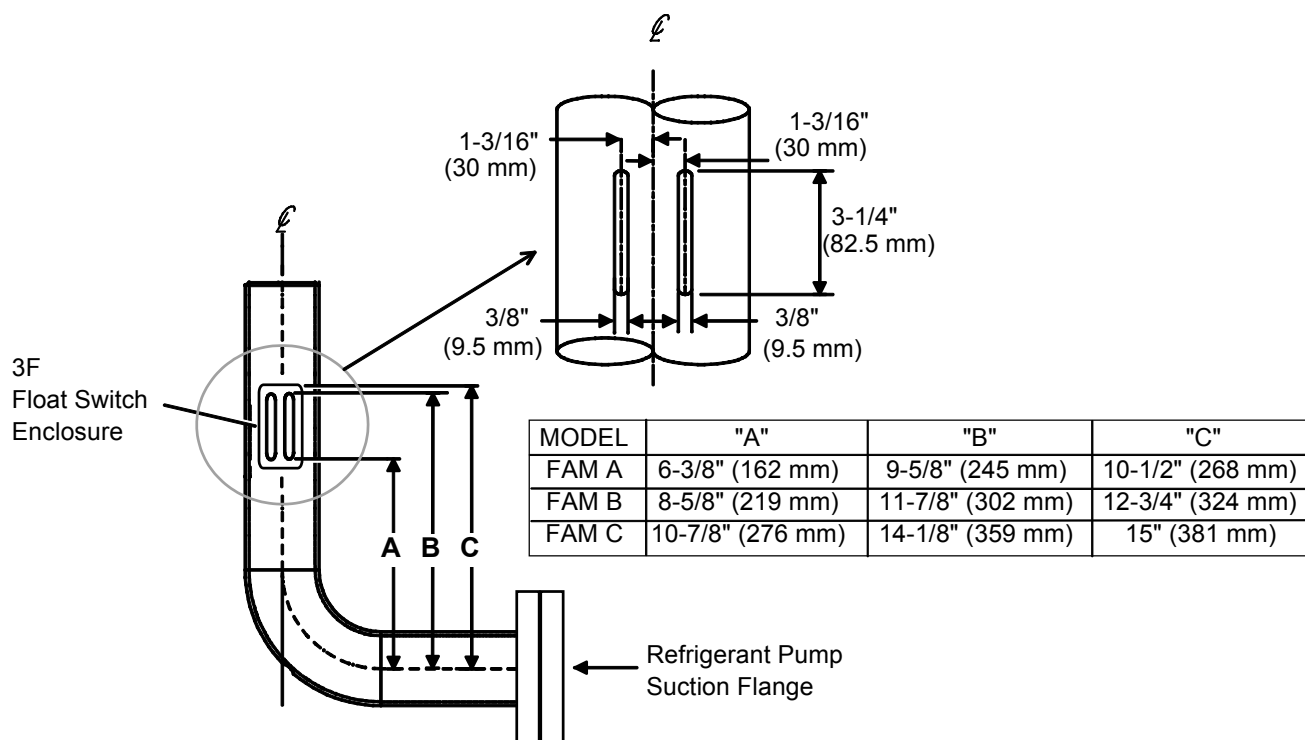

Figure 1 – Location of Float Switch Slots & Enclosure
6. On the vertical section of refrigerant line before the pump suction inlet. Cut two slots to the dimensions shown in Figure 1. Refer to Form 155.17-M3 for details on welding and cutting operations.
7. Weld the 3F Float switch enclosure, p/n 375R00229-000 over the two slots as shown in Figure 1. Refer to York form 155.17-M3 for details on welding and cutting.